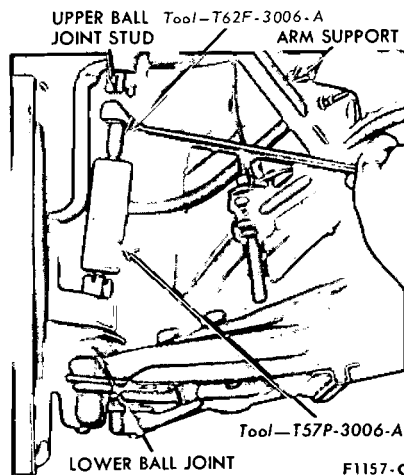

FIG. 5—Loosening Ball Joint Studs in Spindle—Typical
4. Position the ball joint remover tool as shown in Fig. 5. The tool should seat firmly against the ends of both studs, and not against the lower stud nut. It may be necessary to remove the lower ball joint cotter pin if it prevents the tool from seating on the lower stud.
8. Position the ball joint remover tool between the upper and lower ball joint studs as shown in Fig. 5. The tool should seat firmly against the ends of both studs and not against the stud nuts.